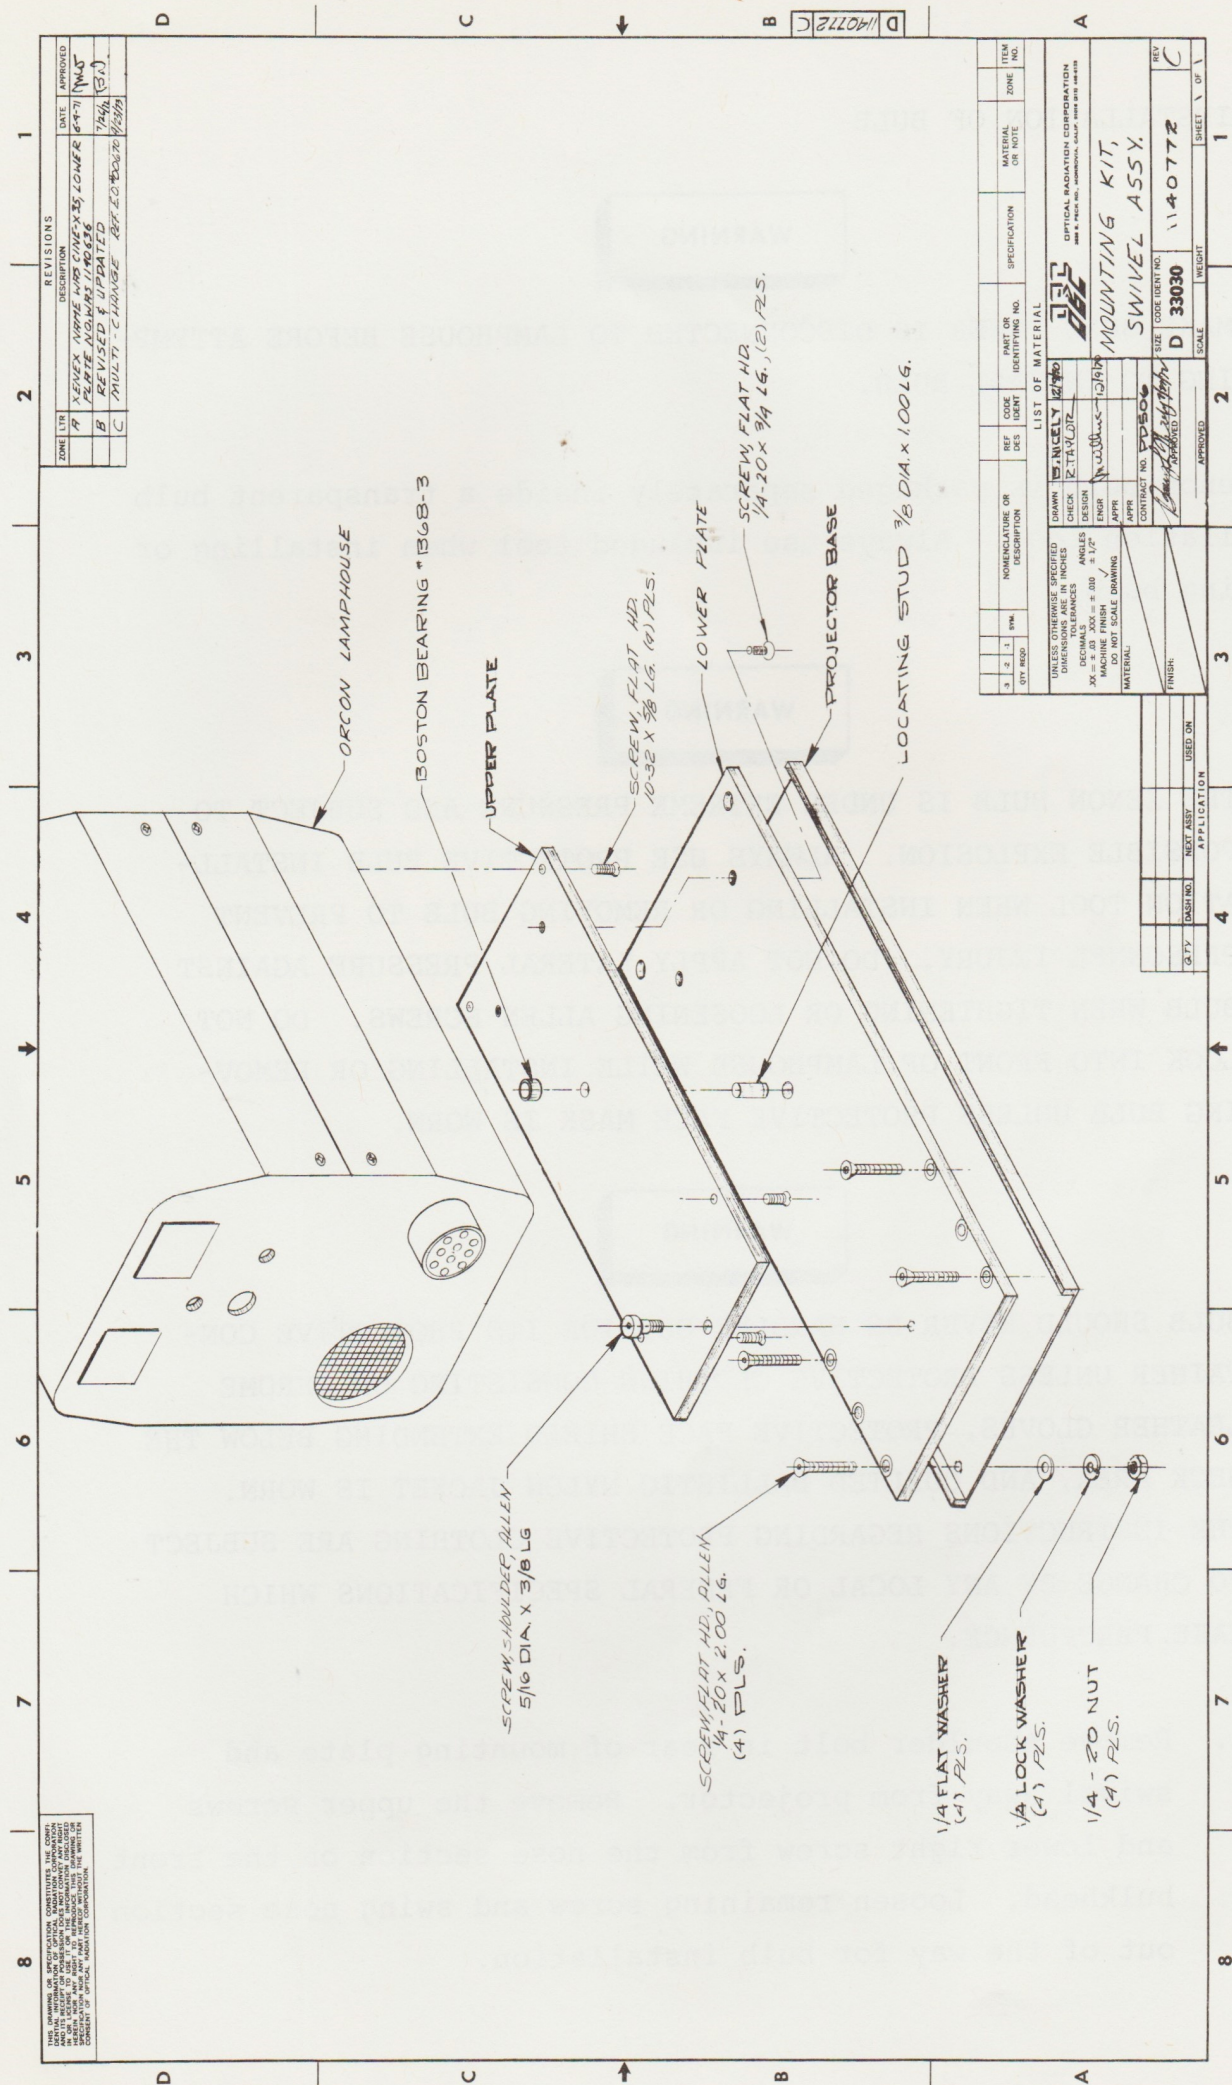

Figure 2-1. 35mm Mounting Kit Swivel Assembly
The ORCON Mounting Plate (MP) should be used in all 35mm projector installations. The plate is designed to simplify the initial installation and to provide speedy bulb replacement when required. Install the mounting plate and lamphouse on the projector pedestal as follows (see figure 2-1):